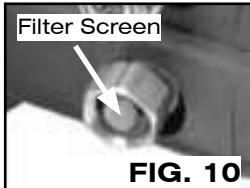

FIG. 10
4. Verify the filter screen is in water inlet of pump. (Fig. 10)